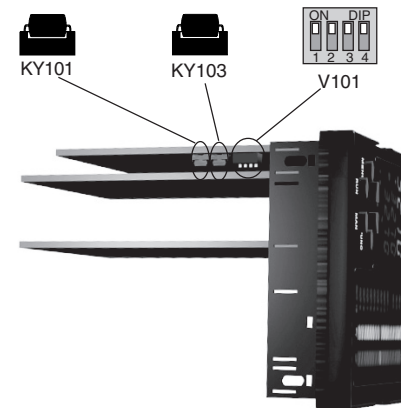

Fig. 22
Two integrated circuits (KY101 and KY103), located as shown in fig. 22 and inserted in a socket, give you the possibility to verify if your instrument is equipped with the desired option.
1) By V101 (see fig 22) it is possible to select one of the following operative modes: